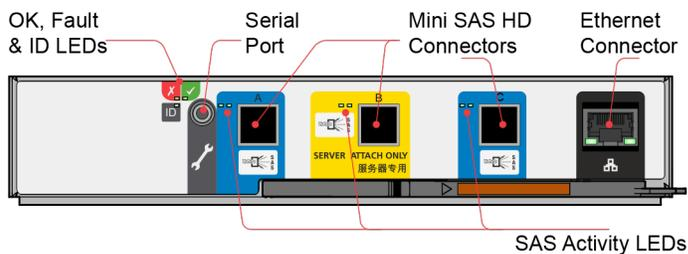

Figure 103. ESM LEDs
1. Identify the ESM to be removed. If the module has failed, the fault LED will be lit amber (see Figure 103 “ESM LEDs” on page 94).